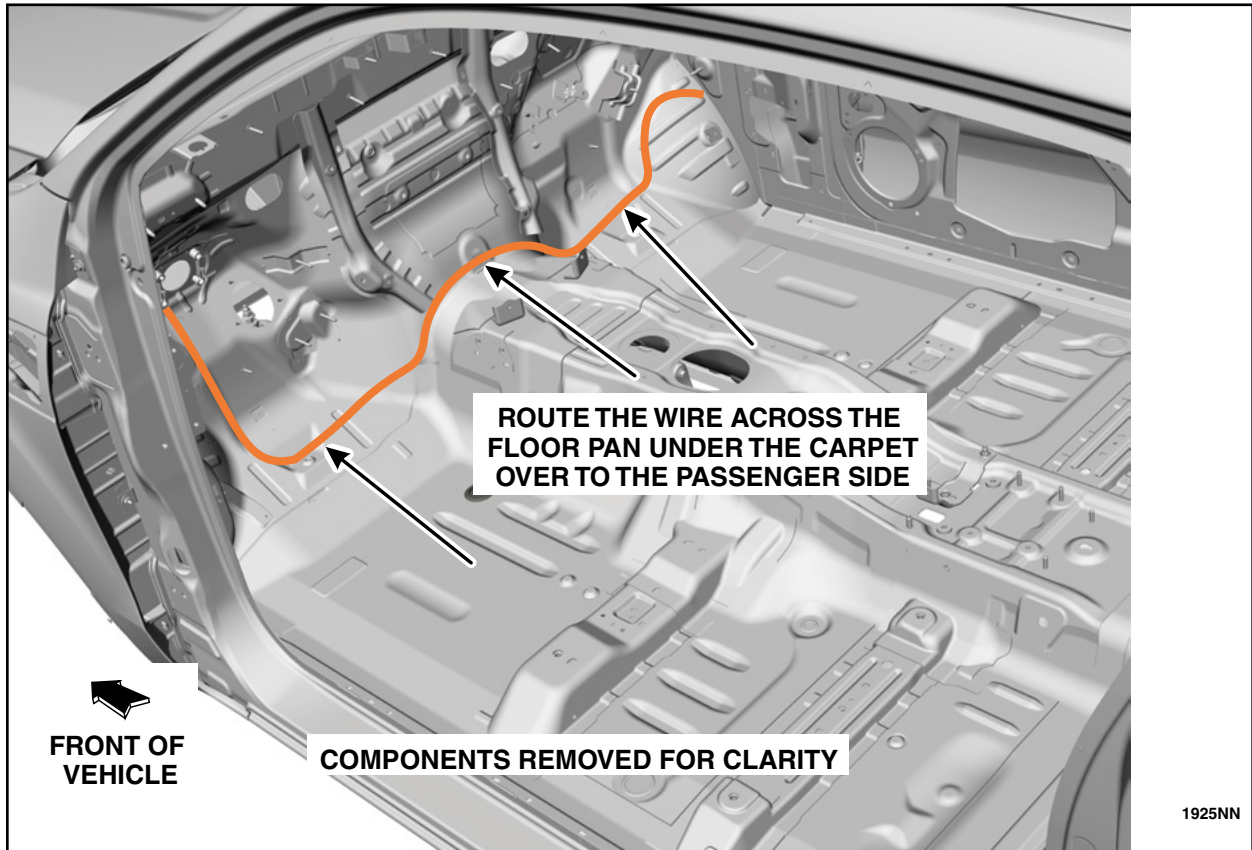

FIGURE 28
30. Route the orange wire under the front carpet area and behind the instrument panel across to the passenger side kick panel. See Figure 28.